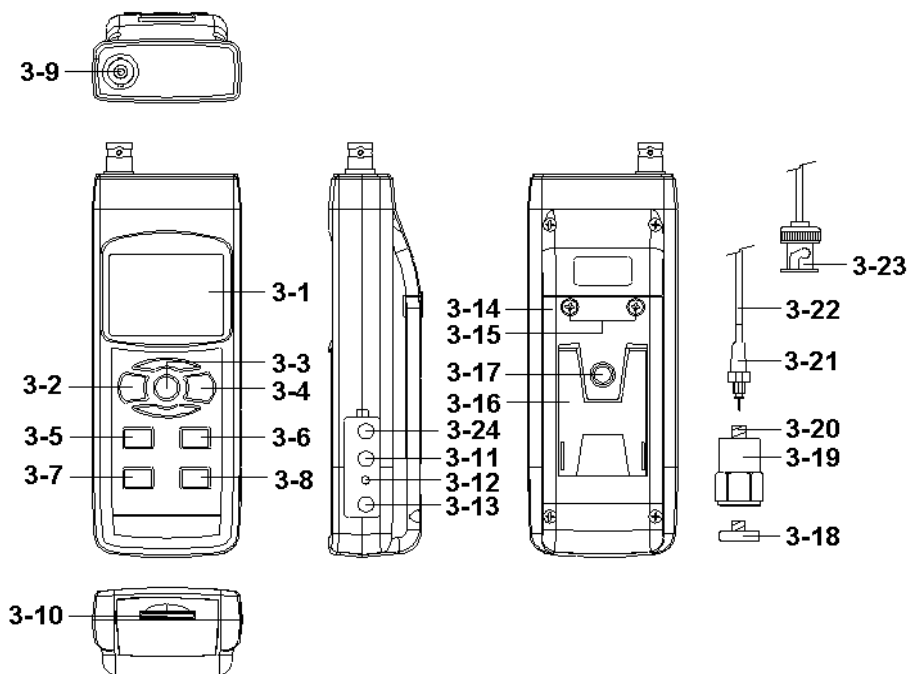

Fig. 1
Zero Button	Under Acceleration ( RMS ) measurement, sensor motionless , press two Buttons ( 3-5, 3-7, Fig. 1 ) >3 seconds.
Max. Hold Reset Button	Under Max. hold measurement, press two Buttons ( 3-5, 3-7, Fig. 1 ) >3 seconds.
( 3-2, Fig. 1 ) > 3 seconds continuously.
- 2) Plug in the " Cable BNC Plug " ( 3-23, Fig. 1 )
to the " BNC Input Socket " ( 3-9, Fig. 1 ).
- 3) Plug in the " Mini plug of cable " ( 3-21, Fig. 1 )
to the " Input socket of vibration sensor " ( 3-20, Fig. 1 ).
ferrous material, connect " Vibration sensor " ( 3-19, Fig. 1 ) with the " Magnetic base " ( 3-18, Fig. 1 )
the " Sensor cable " ( 3-22, Fig. 1 ).*
Select the desired display unit by pressing the " UNIT Button " ( 3-5, Fig. 1 ) > 3 seconds ( not release the button ), the Display will show the following units according Acceleration/Velocity/Displacement in sequence.
Select the desired function ( RMS, Peak, Max HOLD ) by pressing the " FUNCTION Button " ( 3-6, Fig. 1 ).
> 3 seconds ( not release the button ), until the Display will show the desiring function ( RMS, Max HOLD, Peak ) , then release the " FUNCTION Button " ( 3-6, Fig. 1 ).
Under execute the Max Hold function if press the " ▲ Button " ( 3-5, Fig. 1 ) and " ▼ Button " ( 3-6, Fig. 1 ) together > 3 seconds will clear the existing Max hold value.
- 1) Vibration sensor is ready, connect the " Plug of cable " ( 3-23, Fig. 1 ) into the " " Input socket " ( 3-9, Fig. 1 ).
- 4) Under " Acc./Velocity/Displacement " measurement if press the " ▲ Button " ( 3-5, Fig. 1 ) and " ▼ Button " ( 3-6, Fig. 1 ) together > 3 seconds will let the display reach zero value.
During the measurement, press the " Hold Button " ( 3-3, Fig. 1 ) once will hold the measured value & the LCD will display a " HOLD " symbol.
- 1) The data record function records the maximum and minimum readings. Press the " MAX/MIN Button " ( 3-4, Fig. 1 ) once to start the Data Record function and there will be a " REC " symbol on the display.
- a) Press the " MAX/MIN Button " ( 3-4, Fig. 1 ) once, the " REC MAX " symbol along with the maximum value will appear on the display.
- b) Press the " MAX/MIN Button " ( 3-4, Fig. 1 ) again, the " REC MIN " symbol along with the minimum value will appear on the display.
- c) Press the " MAX/MIN Button " ( 3-4, Fig. 1 ) again, the the " MIN " symbol will be appeared, LCD only show the " REC " symbol, the meter start the Data Record function again.
- 3) To exit the memory record function, just press the " MAX/MIN Button " ( 3-4, Fig. 1 ) > 3 seconds continuously. The display will revert to the current reading.
- 1) After power ON, the " LCD Backlight " will light automatically. During the measurement, press the " Backlight Button " ( 3-2, Fig. 1 ) > 3 seconds continuously will turn OFF the " LCD Backlight ".
- 1) Vibration Analog output use the " Vibration Analog output Terminal " ( 3-24, Fig. 1 ) Export this measure vibration signal ,it can connect the Spectrum analyzer APP or used for other application.
the port (3-24 Fig.1 ).
insert the SD card into the " SD card socket " ( 3-10, Fig. 1).